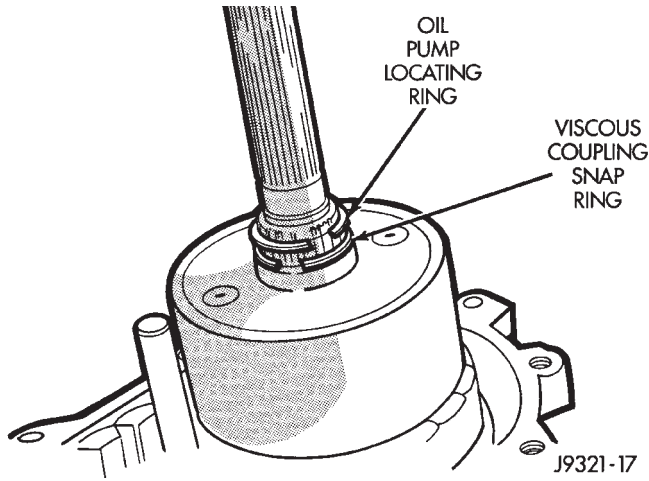

Fig. 71 Progressive Coupling And Oil Pump Snap-Ring Installation
- (1) Install coupling on mainshaft (Fig. 71).
- (2) Install coupling retaining snap-ring first (Fig. 71). Be sure snap ring is fully seated before proceeding.
(3) Install oil pump locating snap-ring on mainshaft (Fig. 71).